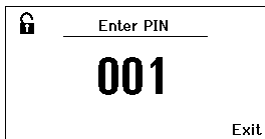
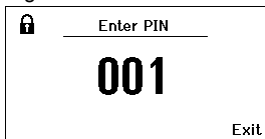

Fig. 26
Fig. 27
3. Set the required three-character locking code (between 001-999) with the turn-and-click wheel (7) (see Fig. 26).
4. Confirm the value with the Enter key (8).
The lock is active (the display shows a lock symbol (27), see also Fig. 27).